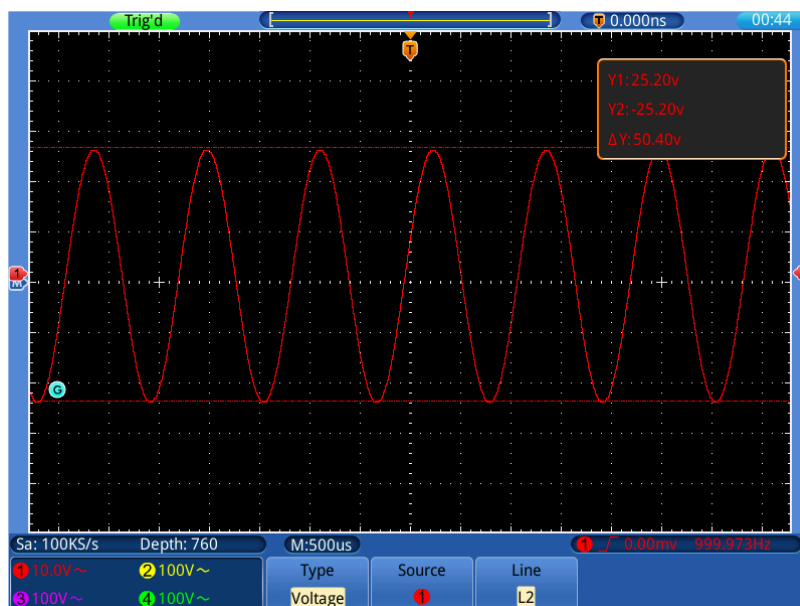

Figure 0-10 Waveform of Voltage Cursor Measurement
2. Select **Source** in the bottom menu; select ① in the left menu.
4. Select **Line** in the bottom menu; select **L1** in the right menu. The **G** icon will appear beside the dotted line of L1, represents you can turn the **G** knob to adjust the position of L1. Select **L2** to adjust the position of L2. Select **L1&L2** to adjust the two cursors together. The cursor measure window at the top right shows the present position of two cursors and the absolute value of voltage difference (see Figure 0-10).